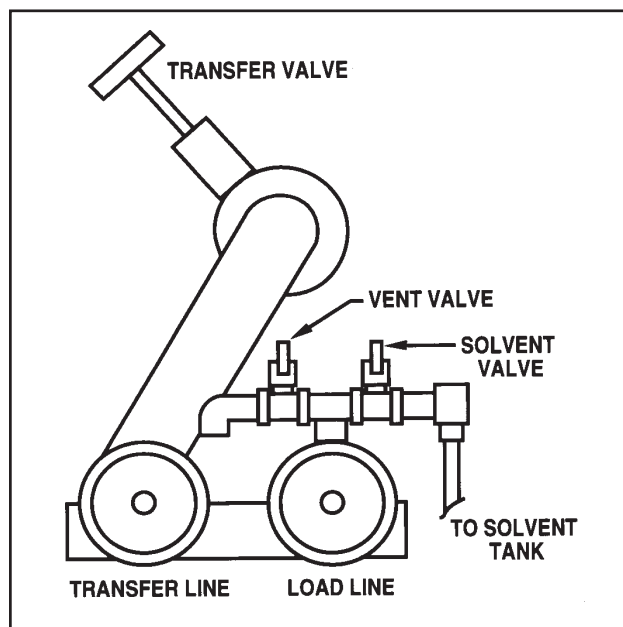

FIGURE 3-19. LOAD LINE & TRANSFER LINE
10. Slowly open the small vent valve to the top left of the Load Line coupler (Figure 3-19) to relieve the vacuum in the line. When suction relief is heard, remove the Load Line cap. If no relief is heard, do not remove the cap. Check that the pump is turning in the forward direction and that the vent valve is open.